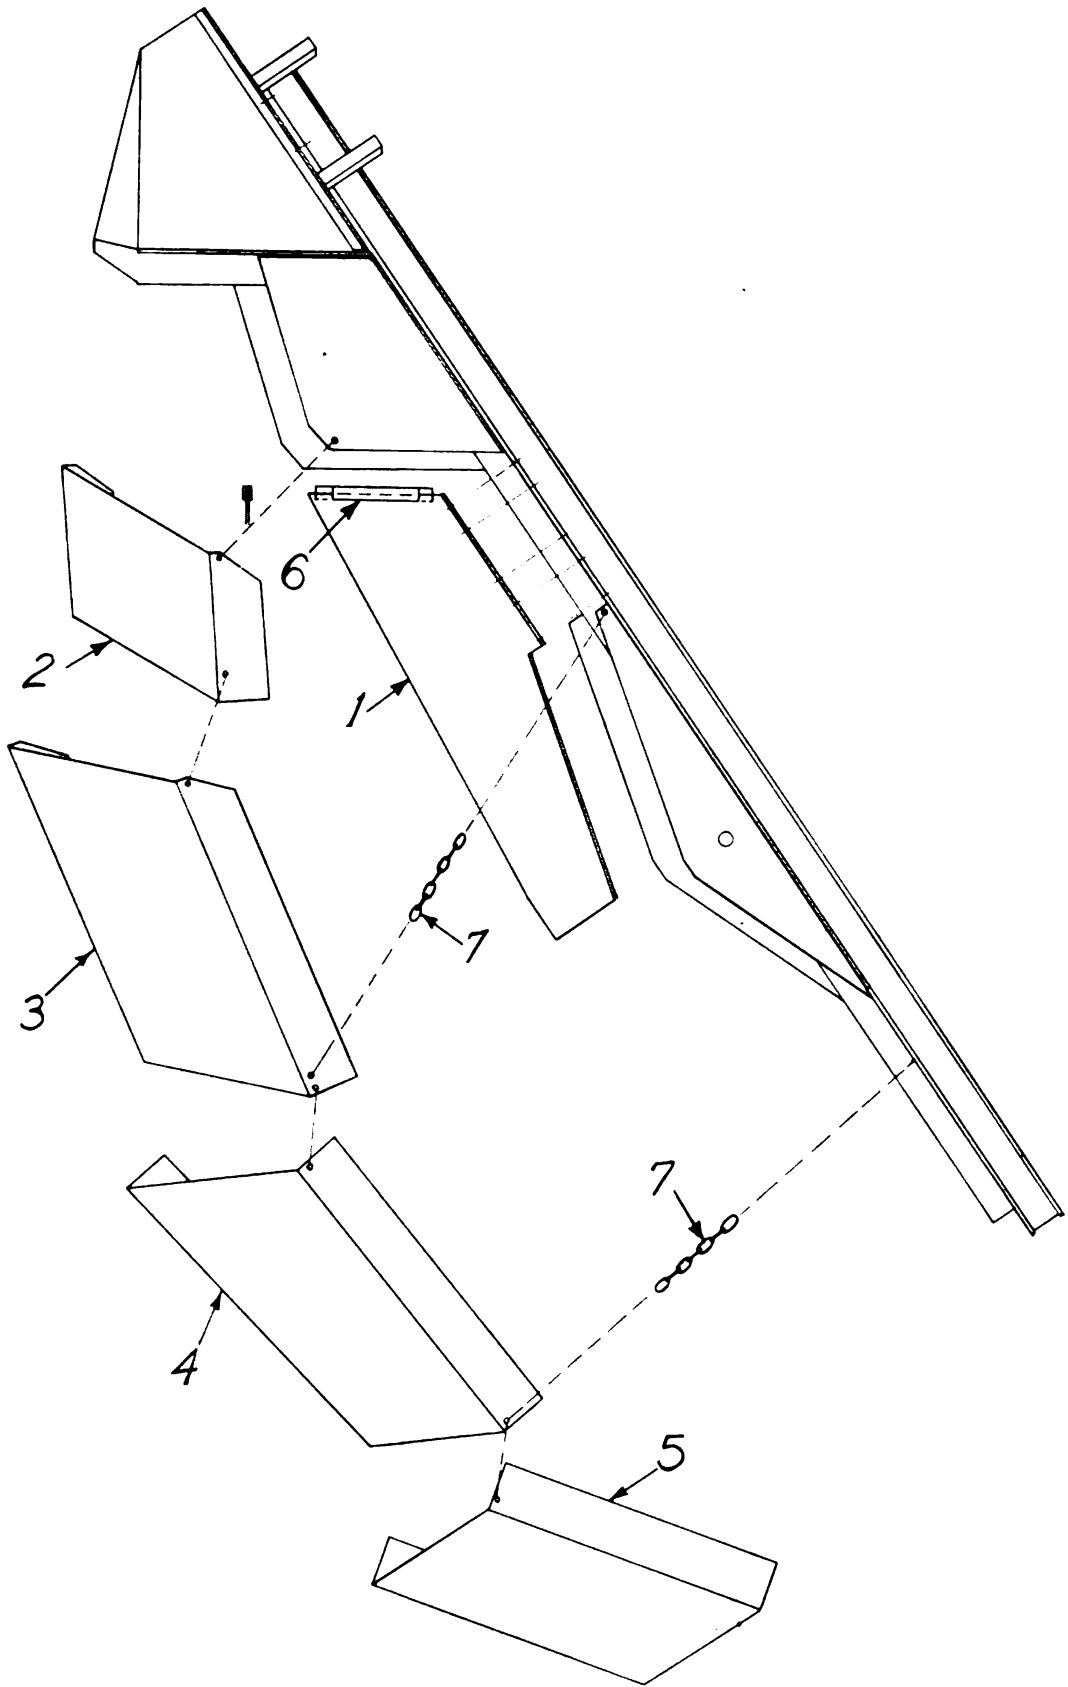

Figure 90. Placing return dust pans.
The housing (1) Figure 90, and return pans (2) (3) (4) (5) may be installed while the elevator is partly raised. The installation of pans and the swivel spout may be made after boom is raised to working position. However, installing these parts at the time suggested simplifies the operation because these parts do not have to be lifted to the higher position.